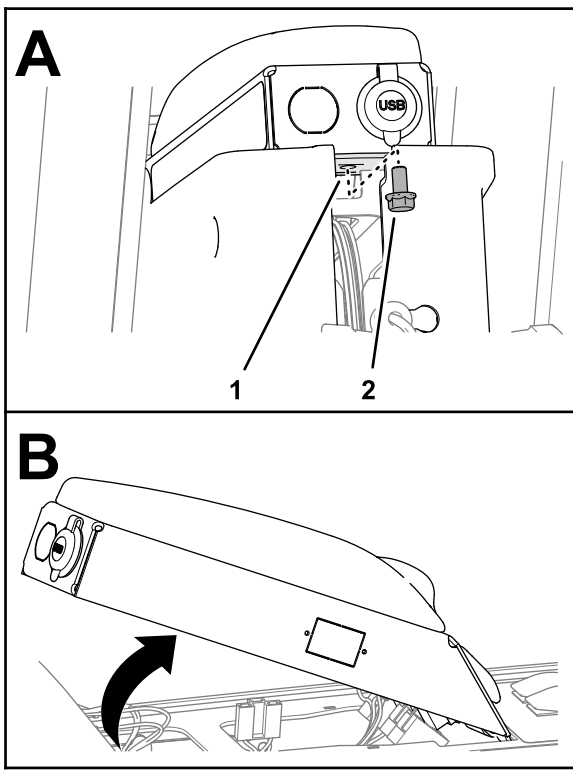

Figure 57
4. Remove the flange-head capscrew (5/16 x 5/8 inch) that secures the arm panel to the console frame (Figure 57).
5. Lift the arm panel from the frame (Figure 57).